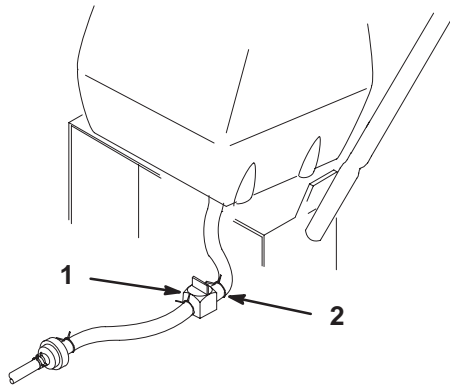

Figure 36
2. Close fuel shut-off valve at fuel tank (Fig. 36).
3. Squeeze the ends of the hose clamp together and slide it up the fuel line away from valve (Fig. 36).
4. Pull the fuel line off the valve (Fig. 36). Open fuel shut-off valve and allow gasoline to drain into a gas can or drain pan.
6. Open fuel shut-off valve at fuel tank (Fig. 36).
7. Check for fuel leaks and repair if needed (Fig. 36).